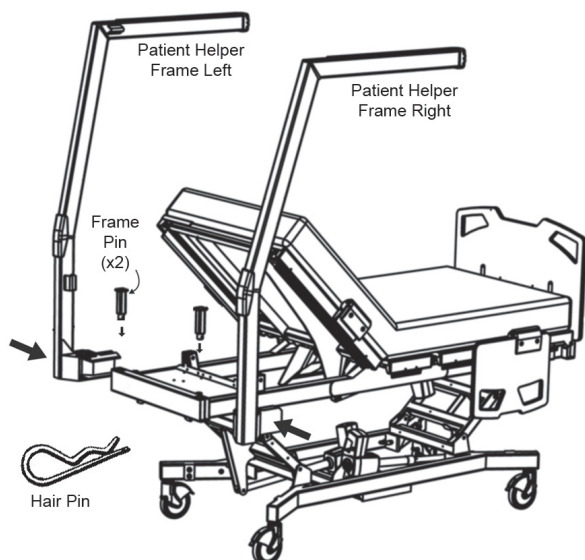

Figure 3
2. Drop (1) frame pin in place securing the left patient helper frame to the bed frame (see Figure 3). Secure frame pin with hair pin.